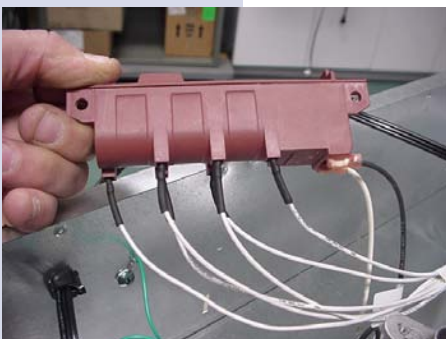

Figure 11
2. Unplug all wires from the spark module. (Figure 11)